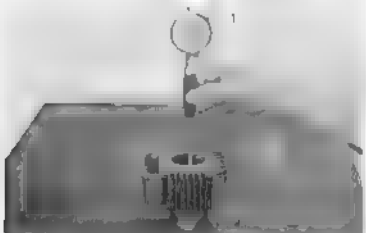

Fig. 3.51 Measuring the cylinder bore
1. Measure the cylinder bore (aper out-of-round with a precision cylinder gauge ①). Take the measurement at the top, middle and bottom in both the X and Y axes. [Fig. 3.51]